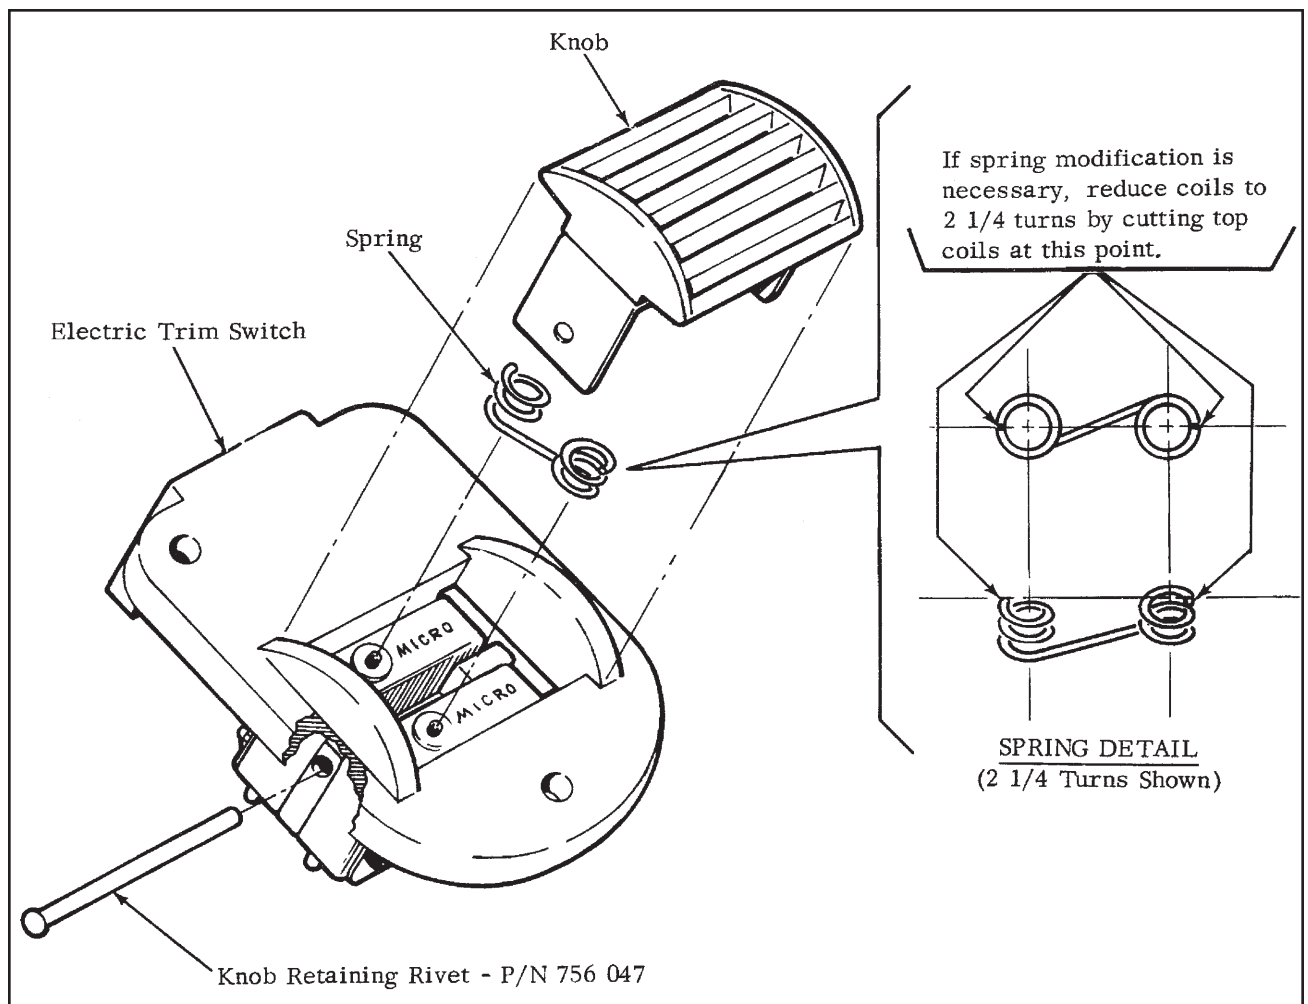

Figure 3-1
- a) If coils consist of 2 1/4 turns as shown in Figure 3-1, proceed to Step 7.
- b) If coils consist of 2 1/2 turns, modify spring by cutting 1/4 turn from top of coils before proceeding. See Figure 3-1.